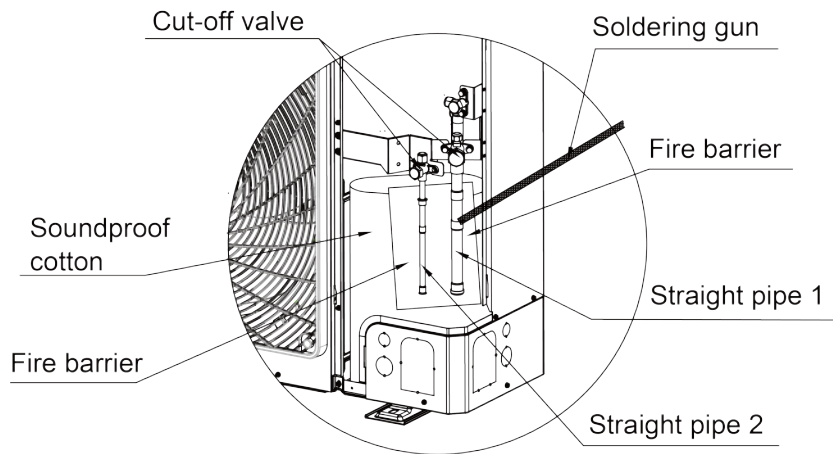
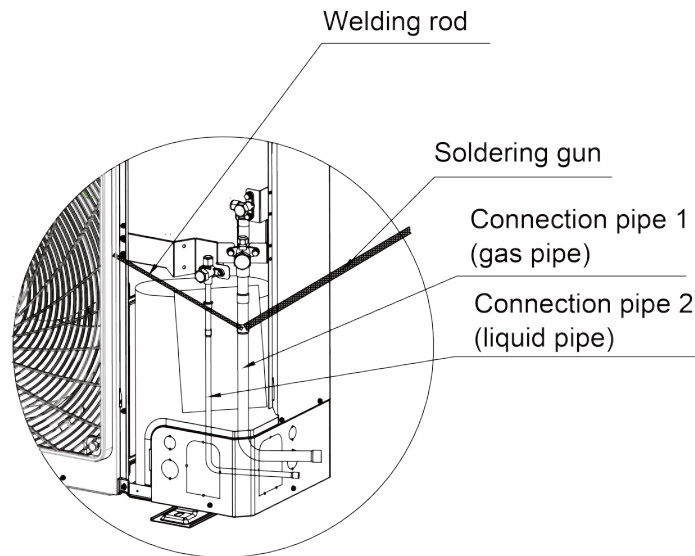

Fig.4.13
Fig.4.14
- (1) Pipe connection for AMV5-O224/S: As shown in Fig.4.13 and Fig.4.14, open the outermost soundproof cotton and place a fire barrier between compressor and straight pipe. Use a soldering gun to unsolder straight pipe 1 and straight pipe 2. Install connection pipe 1 and connection pipe 2 to the corresponding position and then seal the apertures with welding rod. First weld the liquid side connection pipe and then weld the gas side connection pipe. During welding, it's necessary to use wet gauze to wrap up the two cut-off valves. Make sure the flame won't burn the soundproof cotton or other components.